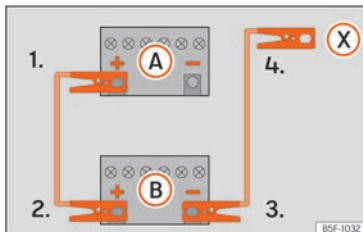

Fig. 43 Diagram of connections for vehicles without Start-Stop system.
2. Connect one end of the *red* jump lead to the positive (+) terminal of the vehicle with the flat battery (A) »» Fig. 43.
3. Connect the other end of the *red* jump lead to the positive terminal (+) in the vehicle providing assistance (B).
- 4a. *In vehicles without a Start-Stop system:* connect one end of the *black* jump lead to the negative terminal (-) of the vehicle providing the current (B) »» Fig. 43.